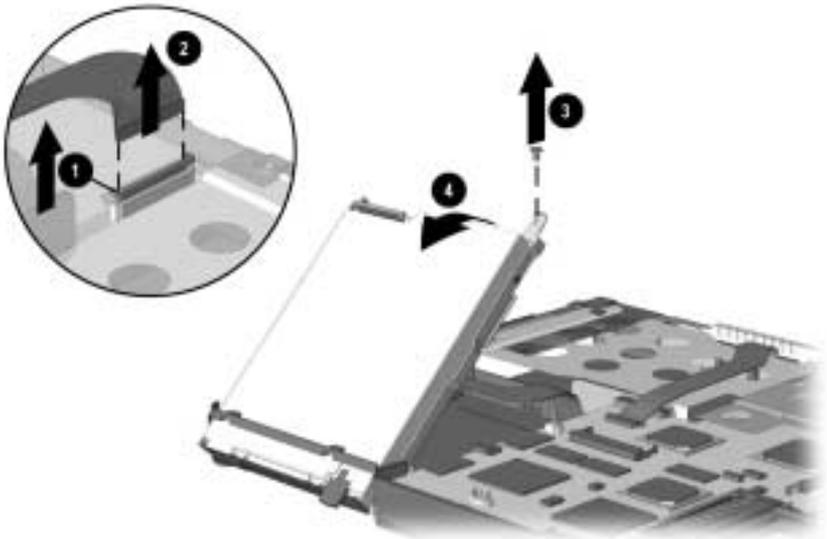

Figure 5-23. Removing the Diskette Drive
2. Release the ZIF connector that connects the diskette drive **1** (Figure 5-23).